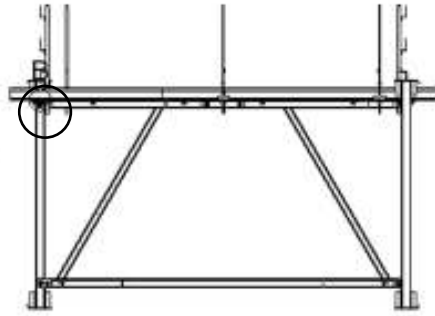

Fig. 8.1
9. Then the MD-beams 560 must be put on the SP-diagonal braces and aligned. Afterwards the MD-beams 560 must be connected and fastened to both sides of the SP-frames and SP-diagonal braces by means of MD-safety claws (Fig. 8.1 bis 8.3). In order to avoid slipping of the MD-beams 560 on the SP-frames and SP-diagonal braces.